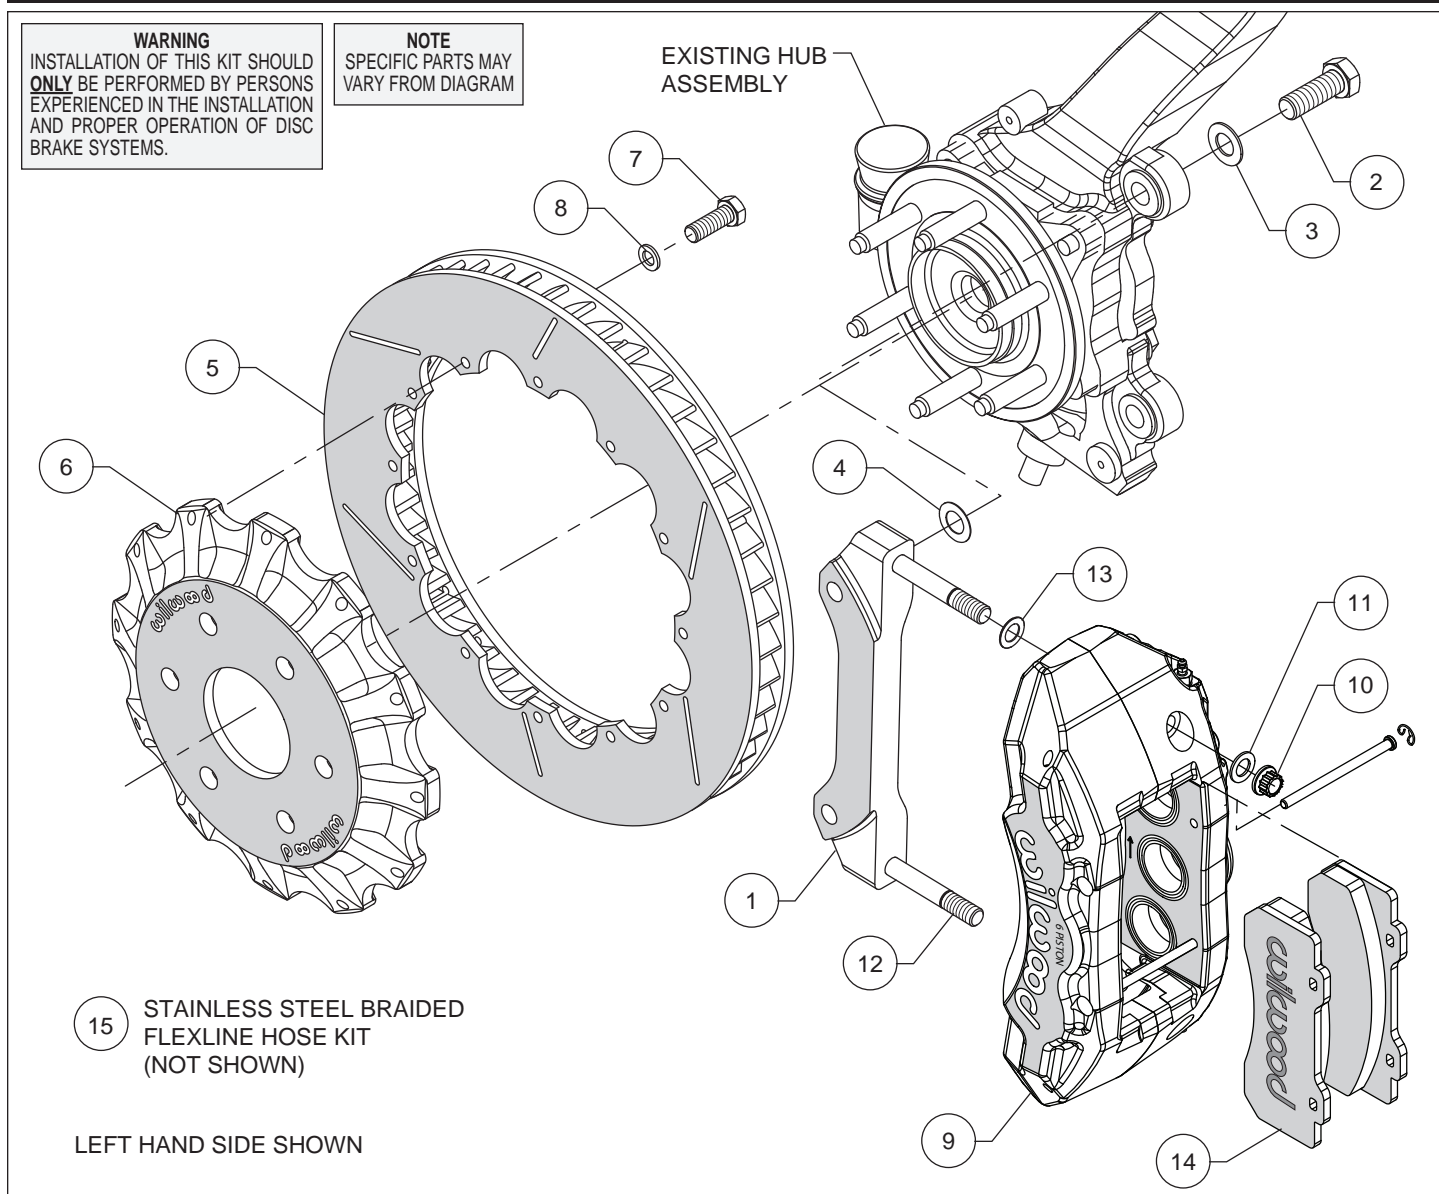
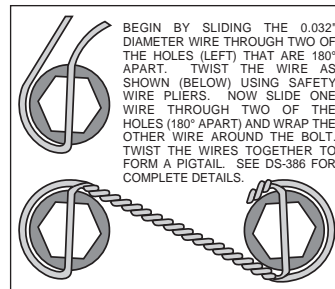

Figure 1. Typical Installation Configuration
Figure 3. Safety Wire Diagram
Assembly Instructions (numbers in parenthesis refer to the parts list and Figure 1 on the preceding pages):
- The caliper mount bracket (1) should initially be installed with clean, dry threads on the mounting bolts. Orient the bracket as shown in Figure 1 and Photo 1, and install using bolts (2) and washers (3). Initially place one .024 thick shim (4) on each bolt between the bracket and upright, Figure 1. Temporarily tighten the mounting bolts. **NOTE:** The bracket must fit squarely against the mount bosses on the upright. Inspect for interference from casting irregularities, machining ridges, burrs, etc. Later, after the caliper alignment has been checked, the mount bolts will be secured using red *Loctite*® 271.
- Orient the rotor (5) and the hat (6) as shown in Figure 1 and Photo 2. Attach rotor to hat using bolts (7) and washers (8). Using an alternating sequence, torque to 25 ft-lbs. For an added measure of security, the bolts may be safety wired using standard 0.032 inch diameter stainless steel safety wire as shown in Figure 3. Refer to Wilwood's data sheet DS-386 (available at www.wilwood.com/Pdf/DataSheets/ds386.pdf) for complete safety wire installation instructions.
- NOTE:** This kit contains distinct right and left hand calipers that must be mounted in a specific direction, as described below. Lubricate the caliper mounting studs (12) with lightweight oil. Initially place one .032" thick shim (13) on each stud as shown in Figure 1 and Photo 3. Mount the caliper (9) onto the bracket (1) using lock nuts (10) and washers (11), Figure 1. Ensure that the caliper is mounted so that the largest pistons are at the rotor exit end of the caliper, in relation to the direction of rotor rotation. Temporarily tighten the lock nuts and view the rotor through the top opening of the caliper. The rotor should be centered in the caliper, Photo 4. If not, adjust by adding or subtracting shims (4) between the bracket and the upright. Always use the same amount of shims on each of the two mounting bolts. Once the caliper alignment is correct, remove the bracket mounting bolts (2) one at a time, apply red *Loctite*® 271 to the threads, and torque to 120 ft-lb.